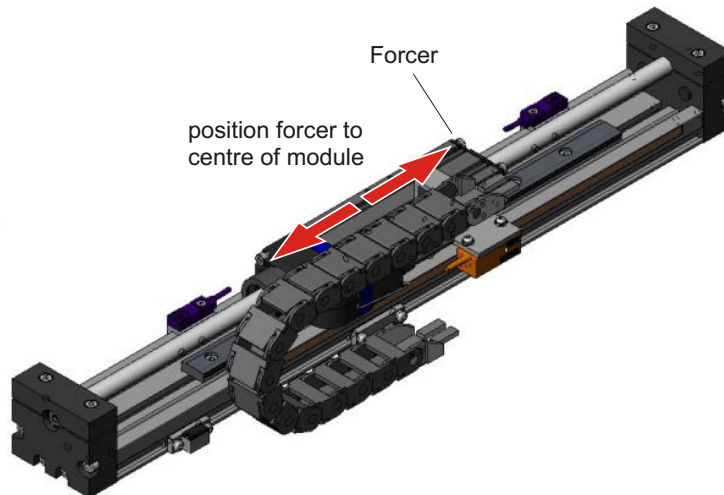

Figure 3.5
One of two types of thrust rod end supports are fitted to the module. If the thrust rod end supports fitted are as shown right, it is not recommended that thrust rod replacement is attempted. In this case the complete module must be returned to the supplier for replacement to be carried out. For the type of thrust rod support shown in Figure 3.5, carry out the following procedure.
- Move the forcer to the centre of the module, Figure 3.5.